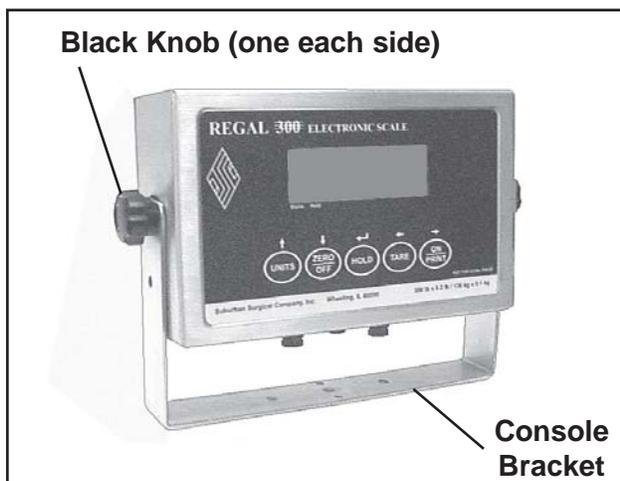

Figure 35. Removing the Console from the Console Bracket
1. Remove the two black knobs and remove the display console from the console bracket (Figure 35).